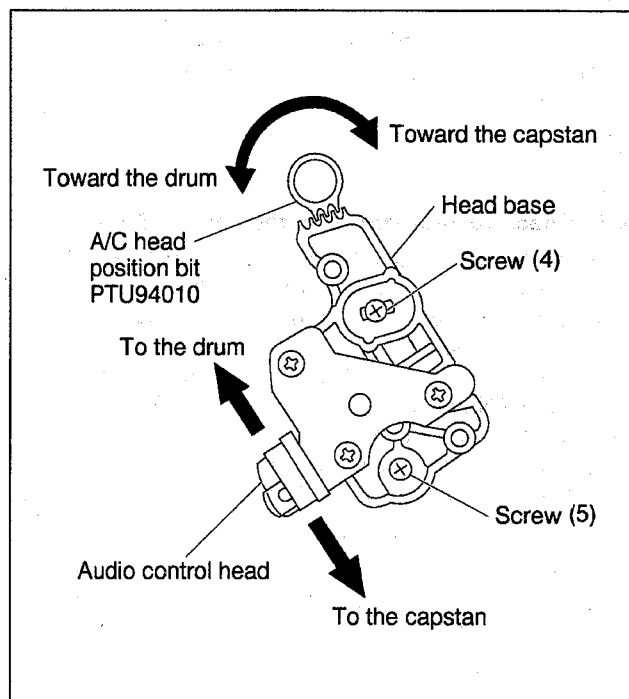

Fig. 2-4-6
- (1) Connect the oscilloscope to TP106(PB FM/COL) of the main board assembly and to TP111(D.F.F) of the main board assembly for external sync connection.
- (2) Play the alignment tape MHP and observe the FM waveforms.
- (3) Press the channel buttons (+) and (-) buttons simultaneously during playback to enter the manual tracking mode (This also brings tracking to the center.)
- (4) Loosen screws (4) and (5) so that the A/C head position bit (PTU94010) is set as indicated in Fig.2-4-6.
- (5) Turn the A/C head position and first move the audio control head fully up to the capstan head. Then gradually return the audio control head toward the drum and stop it where the FM waveform reaches its maximum for the first time. Then tighten screw (4) temporarily.
- (6) Then play the alignment tape MHP-L.
- (7) Press the channel buttons (+) and (-) buttons simultaneously during playback to enter the manual tracking mode (This also brings the tracking to the center.)
- (8) Perform the tracking operation and make sure that the FM waveform is at its maximum.
- (9) If it is not at maximum, loosen the temporarily tightened screw (4) and turn the A/C head position bit to bring the audio control head to a position, around where the waveform reaches its maximum for the first time. Then tighten screws (4) and (5).